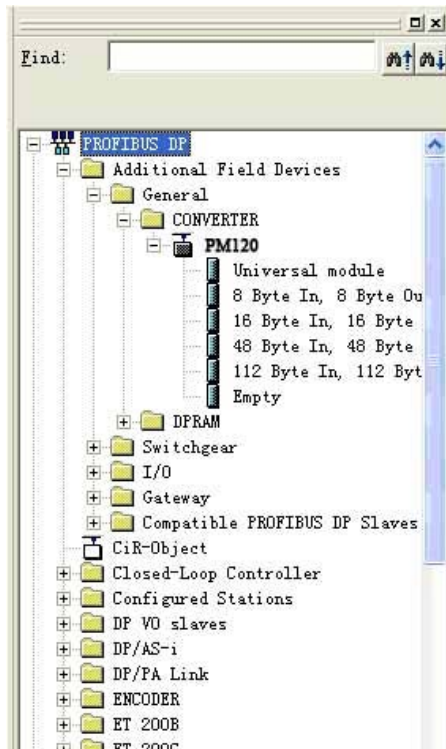

Figure 6
6. Here you can find your equipment in the right side of the window; Figure 6